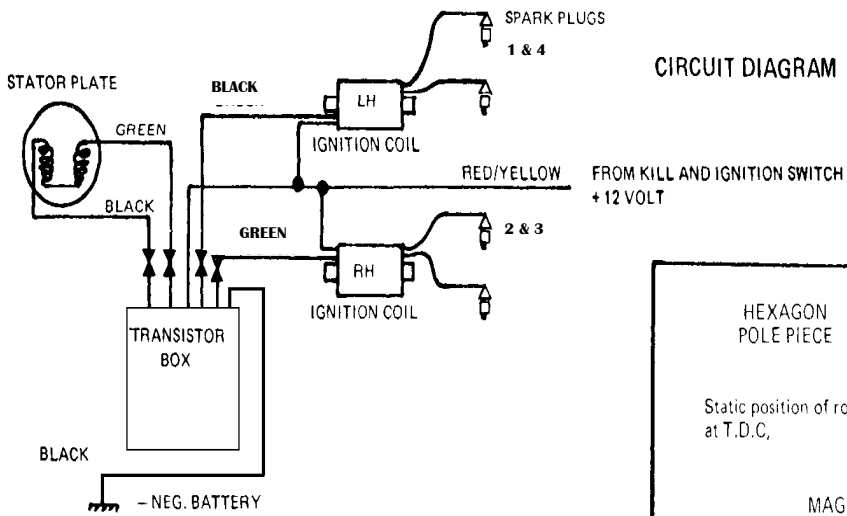

Fig.3
- 16) The magnetic rotor supplied has no direct location on the advancer shaft and can be fitted in any position. This is due to the dogs on the advancer shaft being placed in various positions by the manufacturer. The method of setting is shown in Fig.3. Set the engine to the (T) Top Dead Centre position mark on 1.4 or 2.3 cylinders. Move the rotor to the position shown in Fig.3, with the leading edge of the magnets in line with the centre of the pole pieces on the stator plate. Tighten the centre bolt. A small tap on the end of the rotor will give small indentations inside the rotor, these can be filed out to provide greater location and give a refitting position if the rotor is removed.